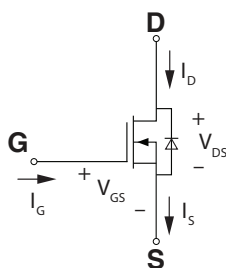

Figure 1. N-Channel Depletion-Mode MOSFET
The circuit symbol for an N-channel depletion-mode power MOSFET is shown in Figure 1. The terminals are named gate (G), source (S) and drain (D). Littelfuse low-power depletion-mode MOSFETs are built using a structure known as vertical double-diffused MOSFET (DMOSFET), which offers superior performance characteristics compared to other depletion-mode MOSFETs on the market. These advantages include high drain-to-source breakdown voltage (V_{DSX}), high current capability and an extended forward-biased safe operating area (FBSOA).